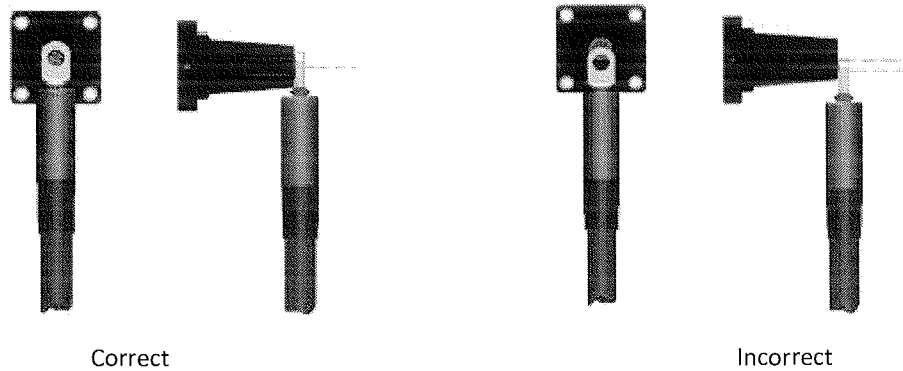

Figure 5/1
- 4. When crimping cable lug, take care that installation holes and bushing holes on the units align with the centre line. Polish any burrs and oxide off the lug and make sure lug is close to the bronze surface of bushing. (As shown in Figure 5/1).
- 5. The process of assembling cable terminal from strip cable set should be completed as quickly as possible to reduce the exposure time of insulating layer. Cable core and insulating layer shouldn’t be damaged while stripping and cutting cable. The length should be adjusted based on each phase, especially three-phase core (As shown below in Figure 5/2).